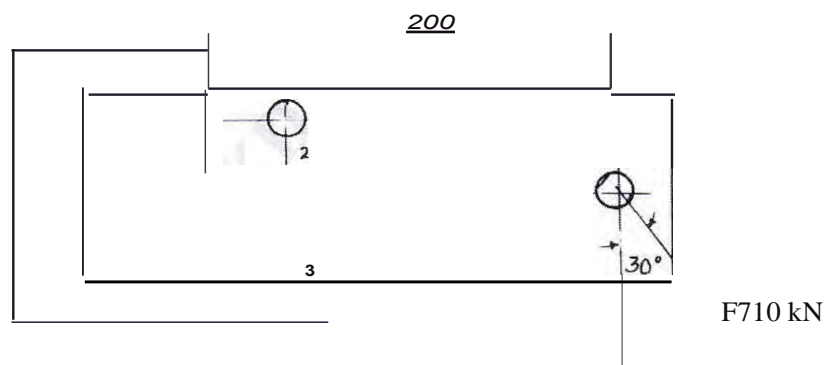

Fig.Q7(b)
b. Determine the size of rivets required for the bracket shown in Fig.Q7(b). Take permissible shear stress for the rivet material as 100 MPa.